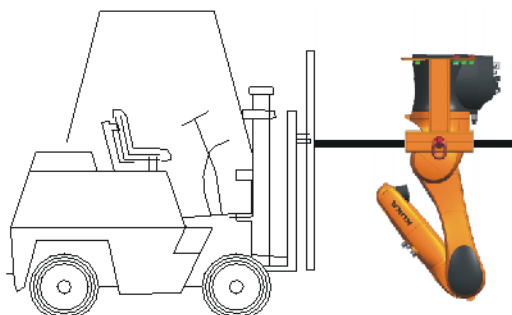

Fig. 8-12: Lifting the Load Lifting Attachment with a fork lift truck
11. Lift the Load Lifting Attachment with a fork lift truck (>>> Fig. 8-12).